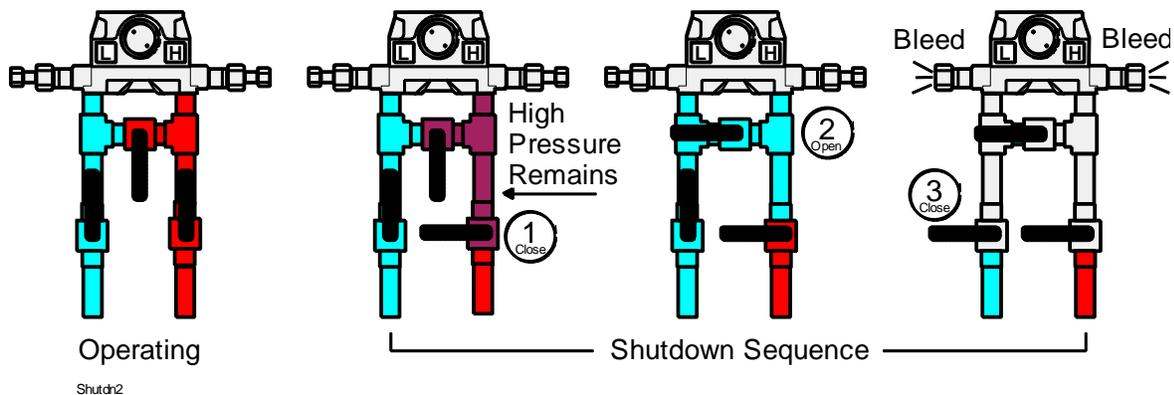

Figure 7-2. MVS Depressurization
1. Remove the sensor from service, taking care to maintain pressure in the sensor by closing the valves and then bleeding off pressure as shown in *Figure 7-2*.